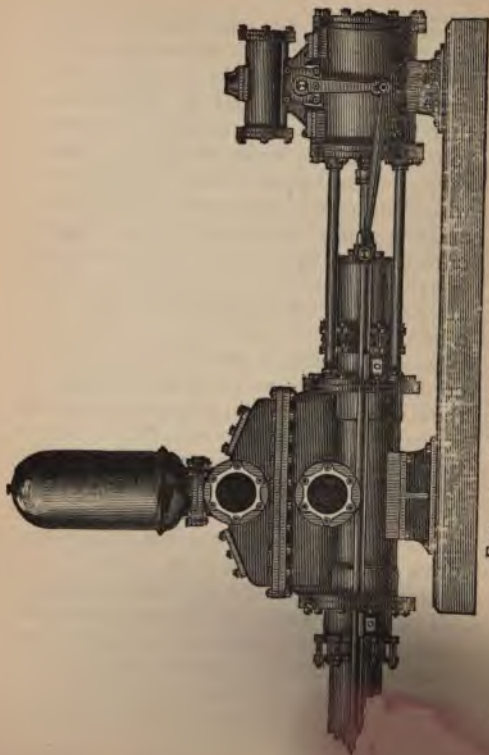
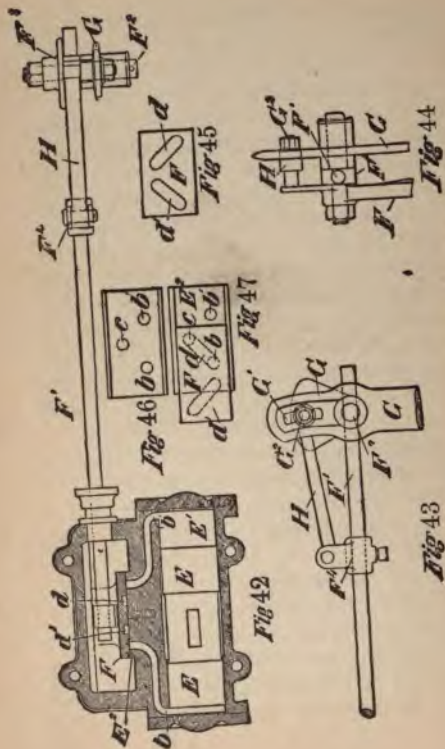
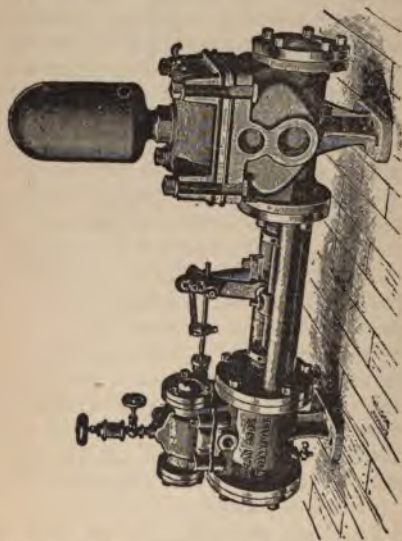

FIG. 41.—DAVIDSON PLUNGER PUMP.
FIG. 42 TO 47.—DEAN BROS. PUMP, DETAILS OF PARTS.
FIG 48 —DEAN BROS. PISTON PUMP.
A. Fig. 41 is a vertical section through centre line of cylinders. Figs. 42 to 47 show the steam valve gear in detail. Fig. 48 shows the pump in perspective. The operation of the steam valve gear is as follows: The main slide valve has a lug on its back which fits into the auxiliary piston *E*. The valve is carried back and forth by said piston. The auxiliary valve *F* slides on the valve seat *E2*, and is provided on its underside with the diagonal exhaust cavities *d d*. The valve-rod *F1* is secured to the valve *F*, and has its outer bearing in a stud *F2*, fastened to a post *F3*, bolted to the main frame of the steam pump. The ports *b b1* and *c* are arranged in the shape of a triangle on the face of valve-seat *F1*, and the diagonal cavities *d* and *d*, on the underside of the auxiliary valve *F* diverge from each other, whereby the cavity